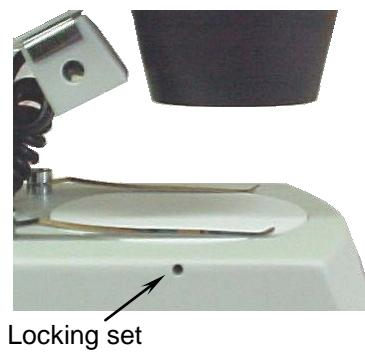

Fig. 2
- a. Loosen the locking set screw (Fig. 2) with the key provided, and remove stage (9).